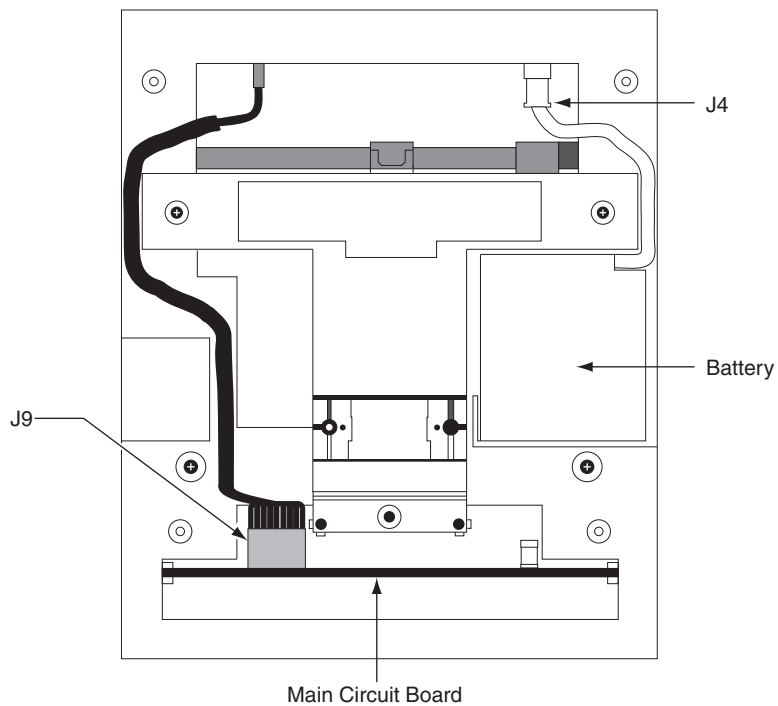

Figure 10
14. Locate the cable that runs from the top panel circuit board to the main circuit board. Connect this cable to J9 on the main circuit board. See figure 10 for cable routing.